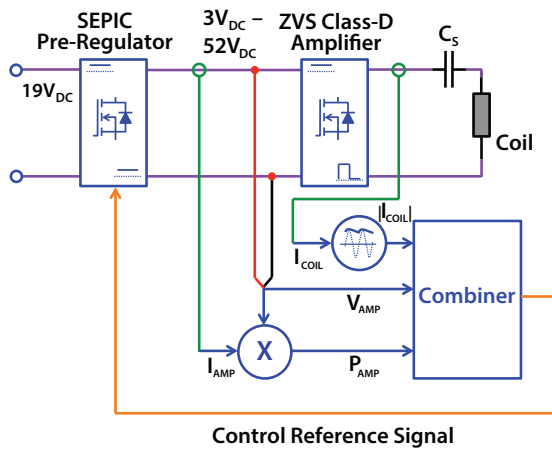
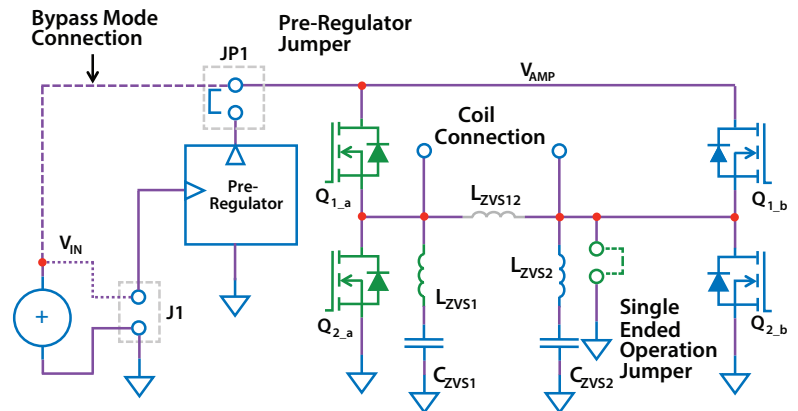

Figure 2: Block diagram of the EPC9509 wireless power amplifier
Figure 3: Diagram of EPC9509 amplifier circuit
Figure 2 shows the system block diagram of the EPC9509 ZVS class-D amplifier with pre-regulator and Figure 3 shows the details of the ZVS class-D amplifier section. The pre-regulator is used to control the ZVS class-D wireless power amplifier based on three feedback parameters 1) the magnitude of the coil current indicated by the green LED, 2) the DC power drawn by the amplifier indicated by
2. With power off, connect the main input power supply bus to J1 as shown in Figure 3. Note the polarity of the supply connector.
2. With power off, connect the main input power supply bus +V_{IN} to the bottom pin of JP1 and the ground to the ground connection of J1 as shown in Figure 3.